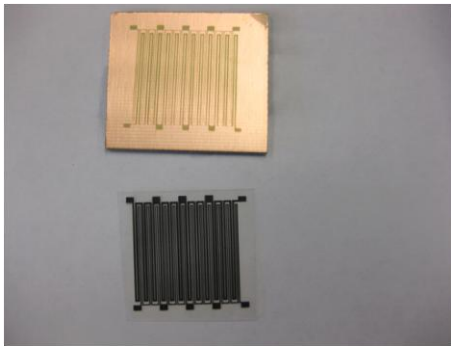

Figure 4 Pattern (green) on Copper after developing
- d. Immediately rinse the substrates in the large beaker filled with water to reveal the copper layer with the photomask pattern clearly visible in green and the surrounding copper metal is exposed (see figure 4). Thus, developing removes the photoresist that was exposed to UV light. Development is not complete until you see the pattern from the photomask as a green pattern on top of the copper metal (you can always develop more but cannot go back!). Clean with water after developing is done.